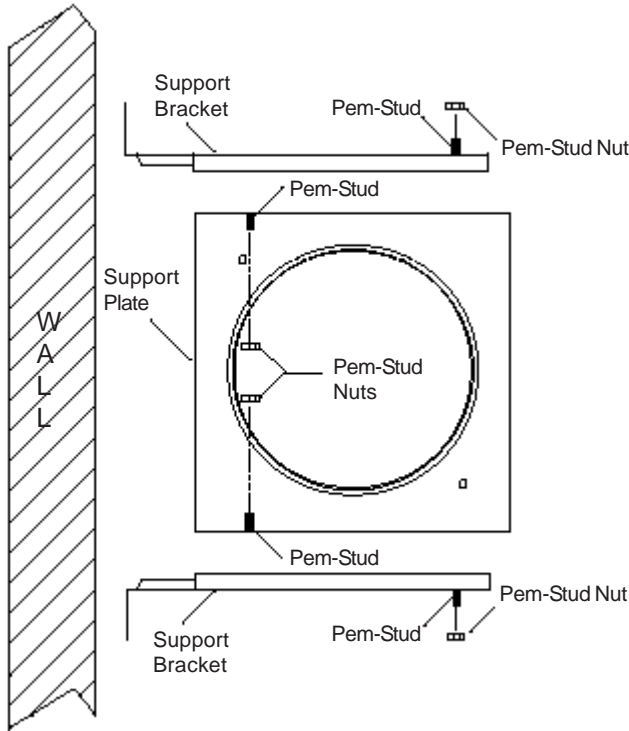

FIG. 4 - BOTTOM VIEW - PEM-STUDS LOCATION
1. Assemble the side brackets (peak of triangle facing down*) to the support plate (flange up) by simply lining-up the pem-studs into the oblong slot openings as per Figure 4.